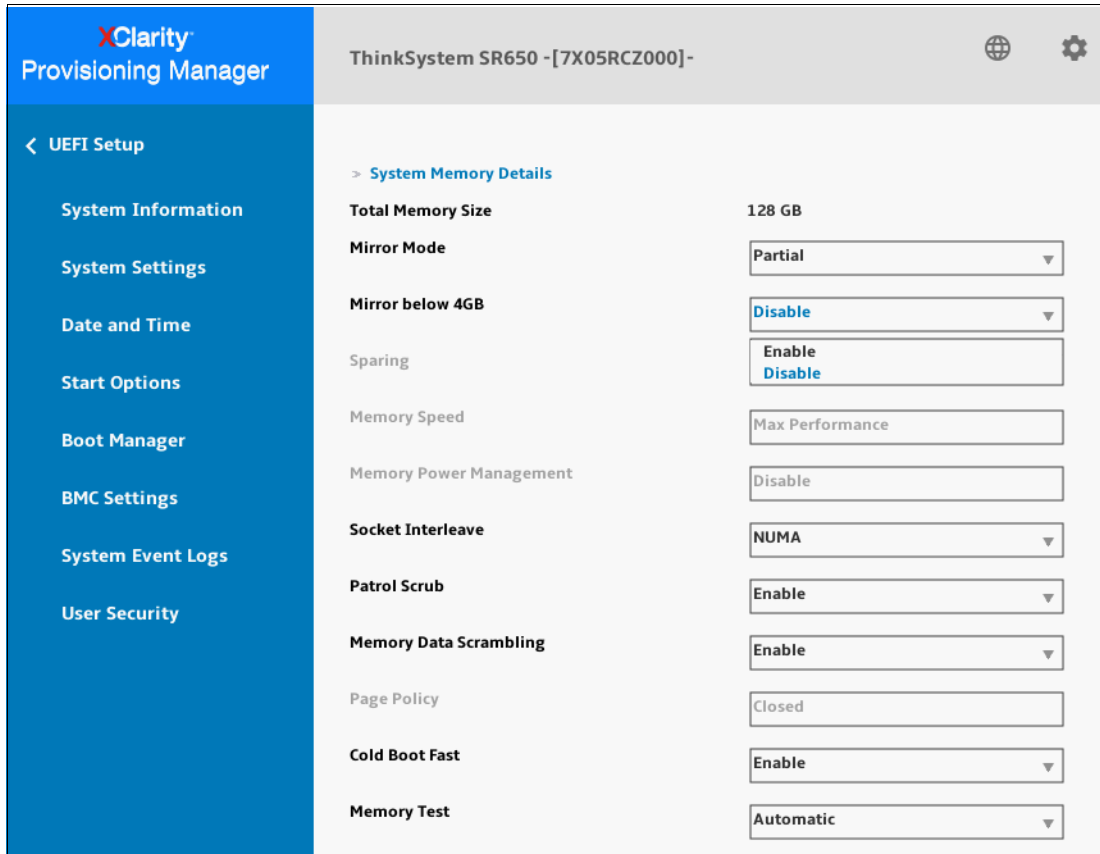

Figure 13 Memory Mirror Settings
- Set Mirror Mode to **Partial** and enable **Mirror below 4GB** if you would like mirroring memory below 4GB. In our testing, we enabled Mirror below 4GB as shown in Figure 13 on page 16.